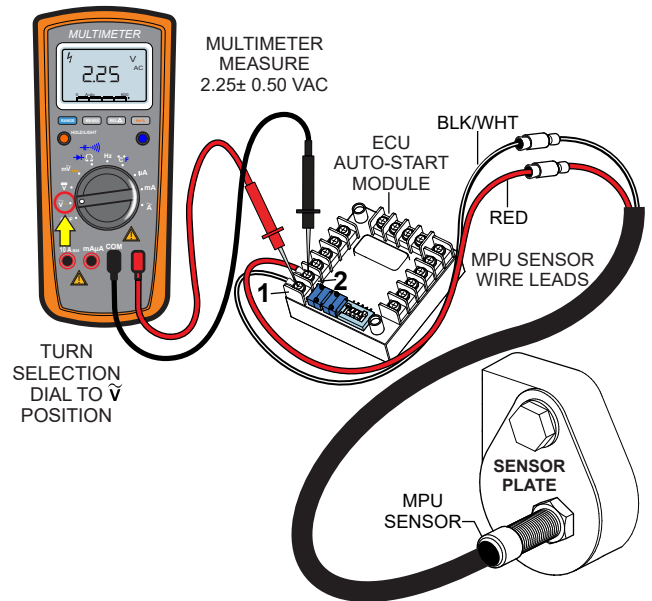

Figure 74. MPU Voltage Test
1. With the multimeter test leads still placed across pins 1 and 2 on the ECU **auto-start module**, set the multimeter selection dial to the **AC Volts** position (Figure 74).